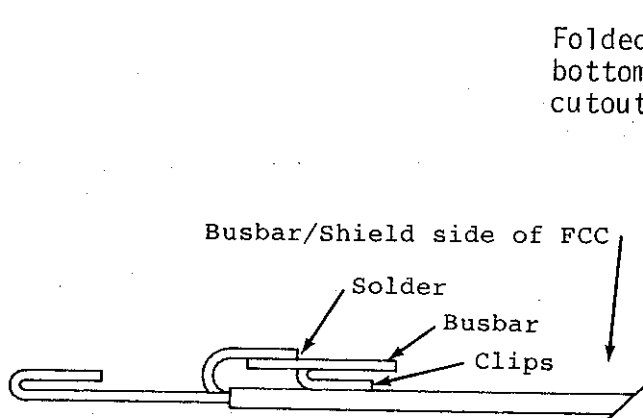

Figure 3B. Soldering FCC Conductors to Busbar
- \* Busbar clips are to face toward the FCC insulation (Figure 3B).